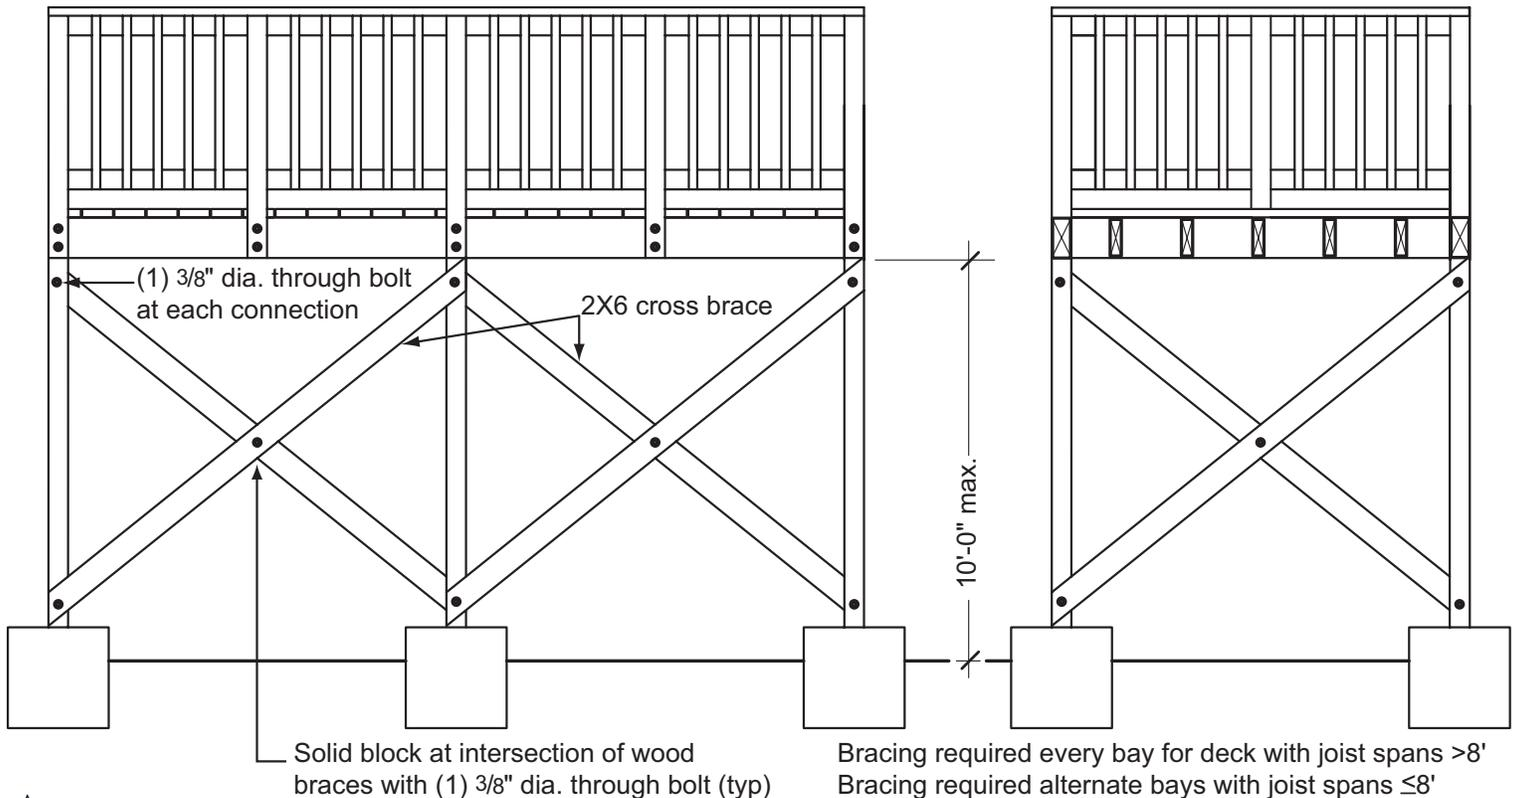

Fig. 15: Diagonal bracing
Decks more than 30 inches above grade must resist lateral forces (wind and earthquake) with diagonal cross bracing as shown in Figure 15. Bracing shall be located between posts parallel to beams and bolted with a 3/8" diameter through-bolt at each end to the posts as shown. Diagonal bracing shall also be located perpendicular to beams. Bracing is required in every other bay between posts for decks with joist spans up to 8 feet, and in every bay for decks with joist spans greater than 8 feet. If the deck is free-standing, diagonal bracing must be provided on all the posts and in both directions.
Post Anchors: Premanufactured post anchors shall be capable of supporting a minimum of 3,000 pounds. Where diagonal bracing is required by Figure 15, the post anchors must be rated for horizontal (seismic) forces.
2. See Figure 15 for diagonal bracing requirements